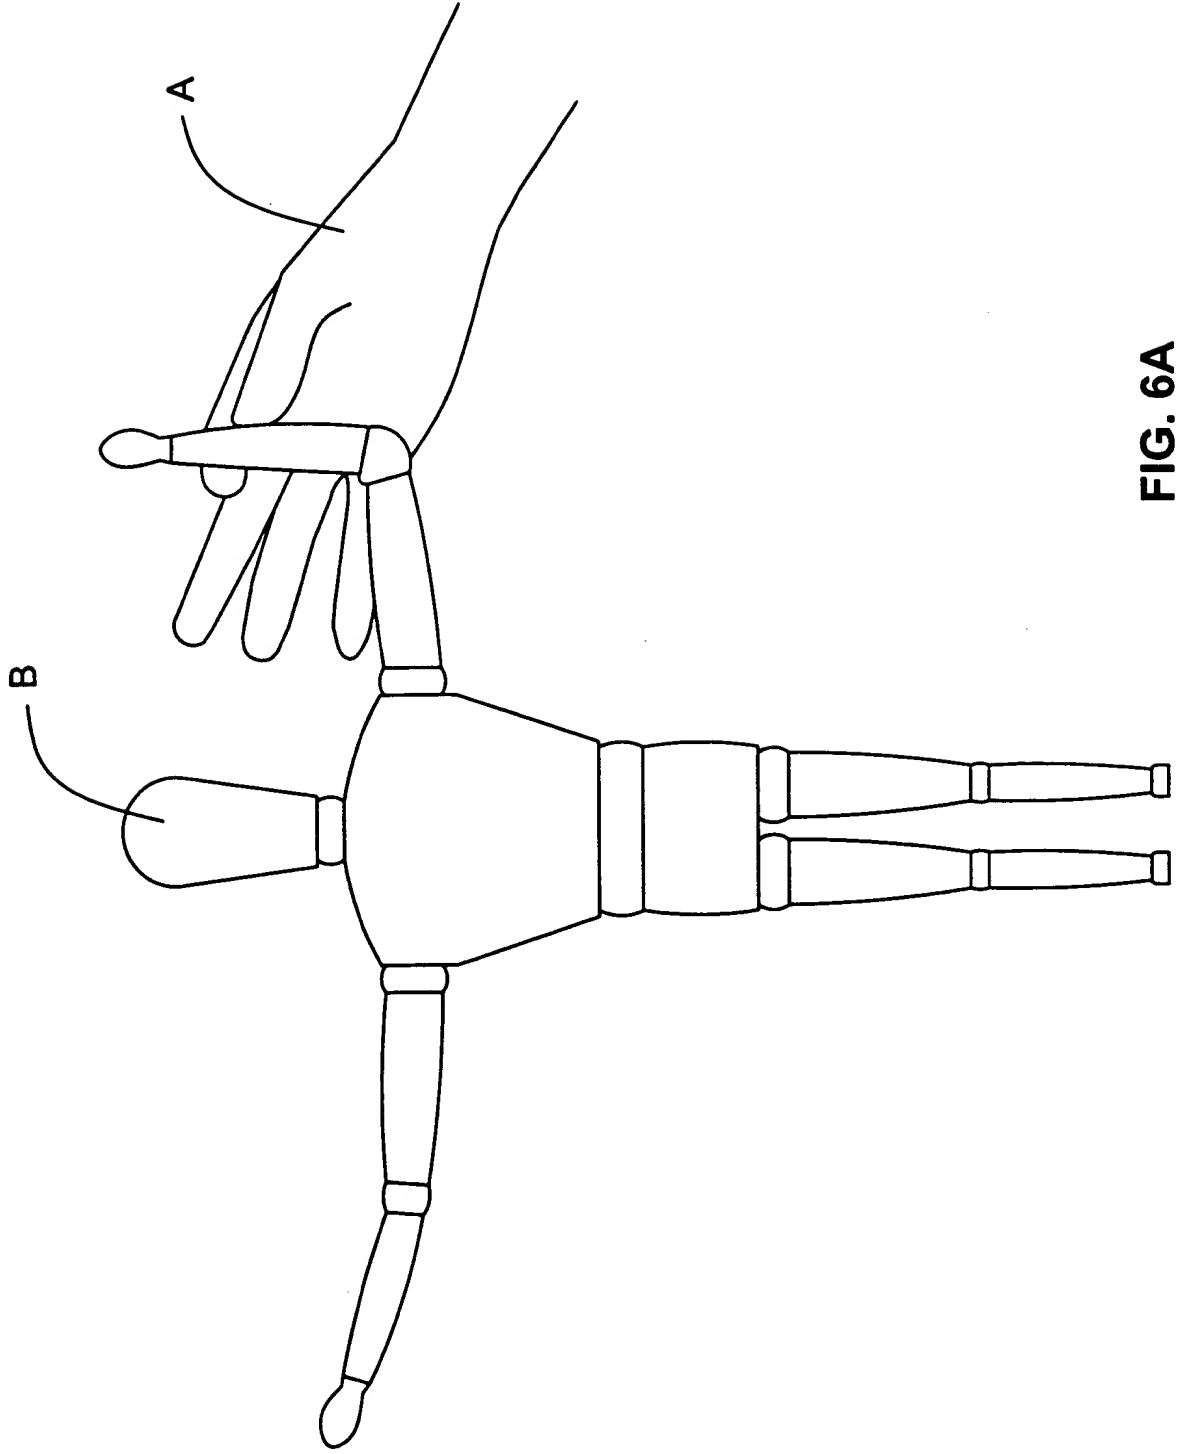

FIG. 6A
FIG. 6A is a schematic diagram of a prosthetic arm and hand assembly. The assembly includes a torso section (10) with a central body (12) and two arms (14, 16). The right arm (14) is extended forward and slightly downward, ending in a hand (18). The left arm (16) is extended forward and slightly upward, ending in a hand (20). The hands (18, 20) are shown in a relaxed, slightly curled position. The torso section (10) is connected to a base (22) which is mounted on a support structure (24). The support structure (24) includes a central vertical post (26) and two side posts (28, 30). The side posts (28, 30) are connected to the base (22) and extend upwards. The central post (26) is connected to the base (22) and extends upwards. The support structure (24) is designed to provide a stable base for the prosthetic arm and hand assembly.